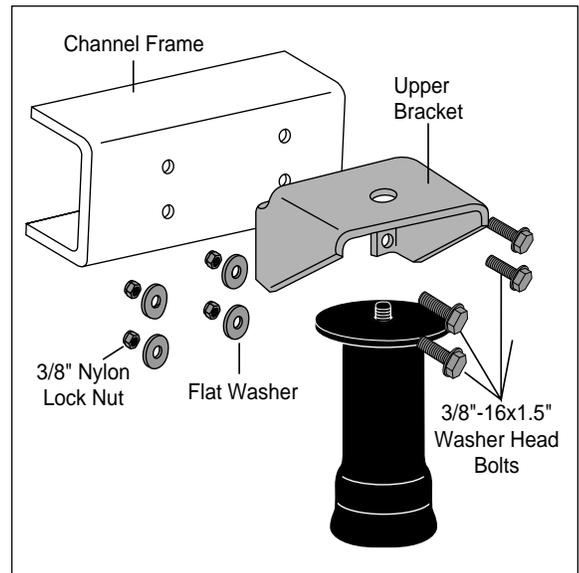

Figure 3
**NOTE:** All Ford vans and Suburbans require  $\frac{3}{8}$ "-16 x 1.5" washer head frame bolts for the C-section type frame rail. The oversized washers are not necessary for these vehicles (Figure 3).